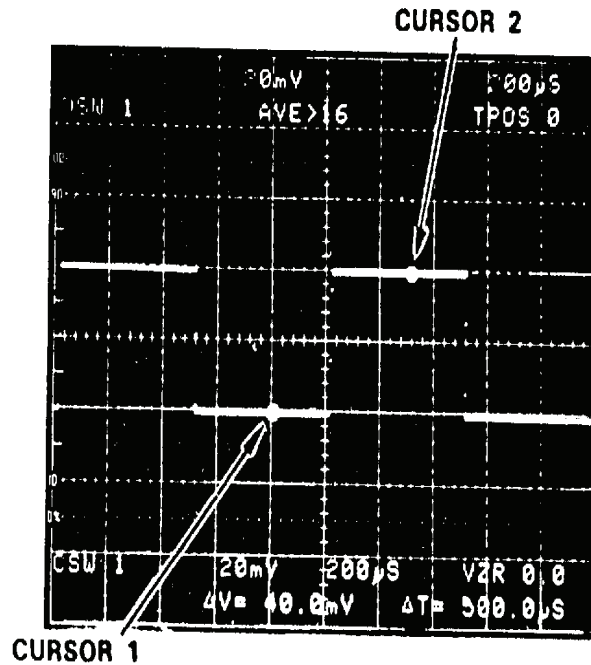

Figure 7. Check vertical linearity.
- (1) Press **MENU/TEST**, **MEMOR DISPLAY 4, 5, 6** and **MENU/TEST** pushbuttons.
- (2) Press **f** (function) and **CURSOR Δ ON** pushbuttons.
- (3) Set **CH 1 VOLTS/DIV** switch to **20 mV**.
- (4) Set **TIME/DIV** switch to **200 μ s**.
- (5) Connect oscilloscope calibrator **SOURCE/MEASURE CHAN 1** output TI **CH 1** input and set oscilloscope calibrator frequency for 1 kHz and output amplitude to 50 mV.
- (6) Adjust **CURSORS 1** and **2** as shown in figure 7.
- (7) Press **AVE N** pushbutton.
- (8) Adjust **CH 1 POSITION** control to move 2 division display over the entire graticule area. The **CURSOR** readout display should not vary more than 2.4 mV.
- (9) Press **AQR MODE CH 2→2** pushbutton.
- (10) Connect oscilloscope calibrator **SOURCE/MEASURE CHAN 1** output to TI **CH 2** input and set **CH 2 VOLTS/DIV** to **20 mV**.
- (11) Adjust **CH 2 POSITION** control to move 2 division display over the entire graticule area. The **CURSOR** readout display indication should not vary more than 2.4 mV.